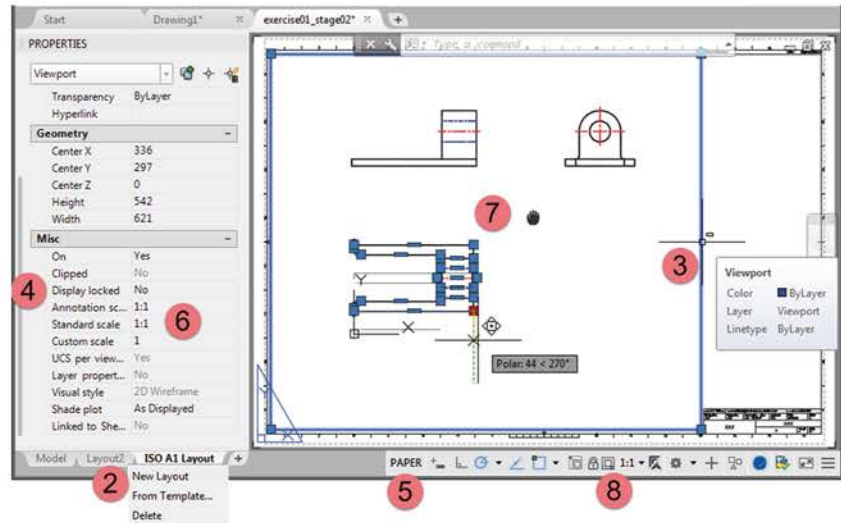

Fig. 12.3 – Using a viewport to show 2D drawing on a layout
2. Delete all layouts except ISO A1 Layout on the right click menu found on the Layout tabs at the left bottom corner of the AutoCAD window. (Fig. 12.3)